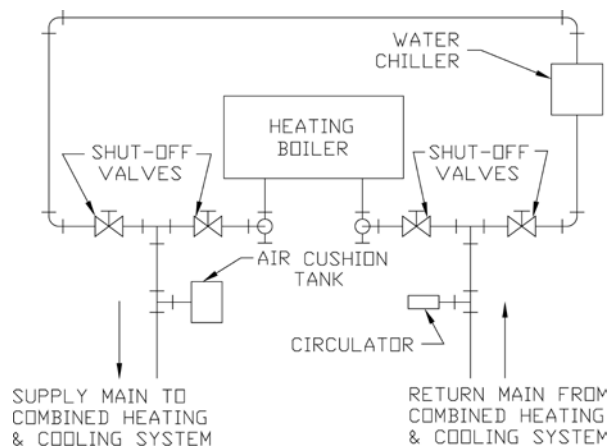

Figure 10: Recommended Piping for Combination Heating & Cooling (Refrigeration) System
- G. If boiler is used in connection with refrigeration systems,** boiler must be installed with chilled medium piped in parallel with the heating boiler using appropriate valves to prevent chilled medium from entering boiler, see Figure 10.